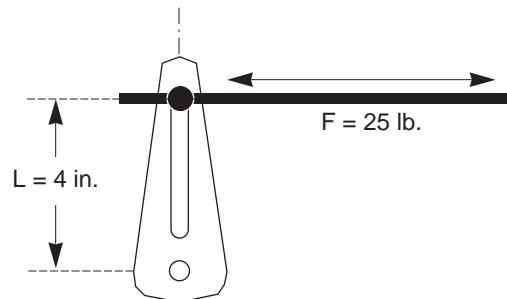
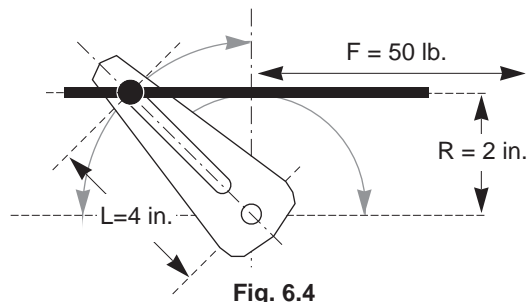

Fig. 6.3
Fig. 6.4
Figure 6.3 shows a crank arm with a length between the pivot point to the ball joint attachment of 4 inches. At the ball joint it shows we are applying a force of 25 pounds. The resulting torque would be 100 in-lb.
The rating of most electronic actuators is given in torque and it is usually required to find either the force from the crank arm or the length of the crank arm for the application. In figure 6.3, if we said the actuator had a torque of 100 in-lb, and needed a force of 25 lb, we would need a 4 inch crank arm.
Unfortunately, the equation $T = L \times F$ is only correct when the force acts upon the crank arm at a 90° angle. At any angle other than 90° the resultant torque or force is dependent on the crank arm effective radius. The effective radius (R), shown in figure 6.4, is the distance between the point on the push rod which is perpendicular to the center of rotation of the crank arm and the center of rotation.
Figure 6.4 shows the same torque and crank arm as figure 6.3; however, the crank arm is now not perpendicular to the push rod. At this point in the crank arm rotation we show an R of 2 inches. With the output torque of 100 in-lb, the resulting force at this point is 50 lb.